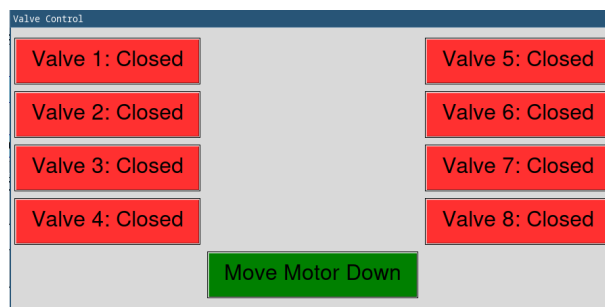

Figure 11: Toggle Valves On and Off by Pressing each Button Once.
2. Next, press each button one-by-one and ensure that each LED light corresponding to a valve is properly toggled on and that you hear a valve switch on at the same time. (Figure 11.)
1. As before, open the ‘Valve Control’ window (Figure 11).